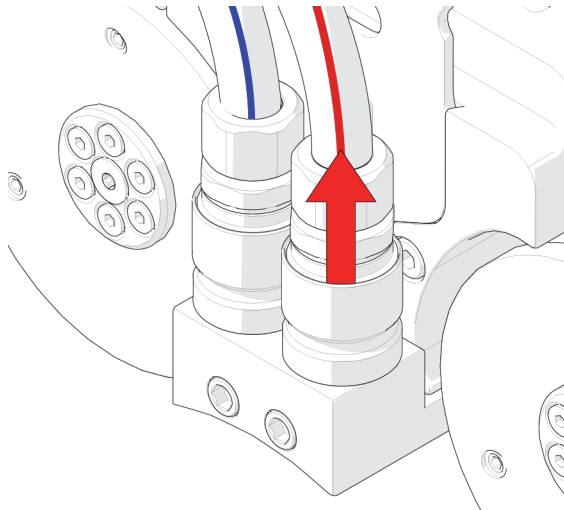

Figure 2-22 Pull sleeve to disconnect
- ◆ To disconnect a hose, grasp the sleeve of the hose fitting and pull away from the crawler (see Figure 2-22 on page 61).